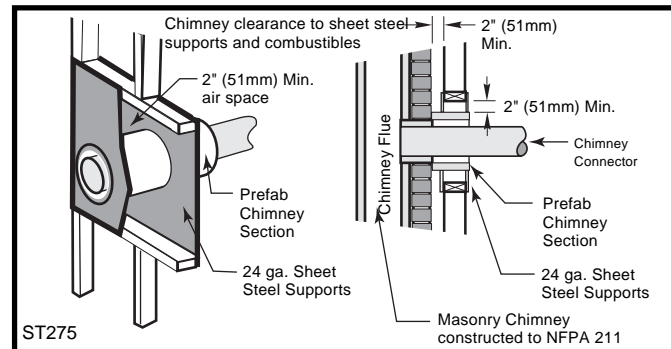

Fig. 10 Wall Pass-through with ventilated steel thimble.
- Placing a chimney connector pipe inside a section of 9" (229mm) diameter, solid-insulated, factory-built chimney, with two inches of air space between the chimney section and combustibles. (Fig. 10)